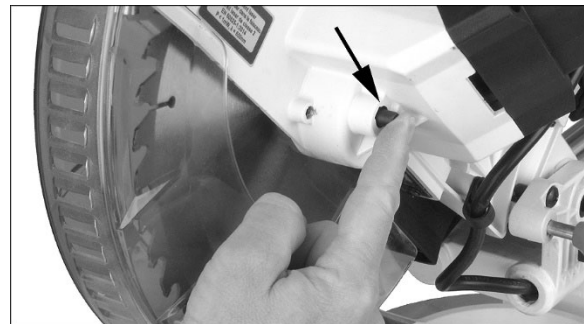

Figure 6-5
6. Press and hold arbor lock on opposite side of head (Figure 6-5) while rotating blade until arbor lock engages.
6. Press and hold arbor lock (Figure 6-5) while rotating blade until arbor lock engages.